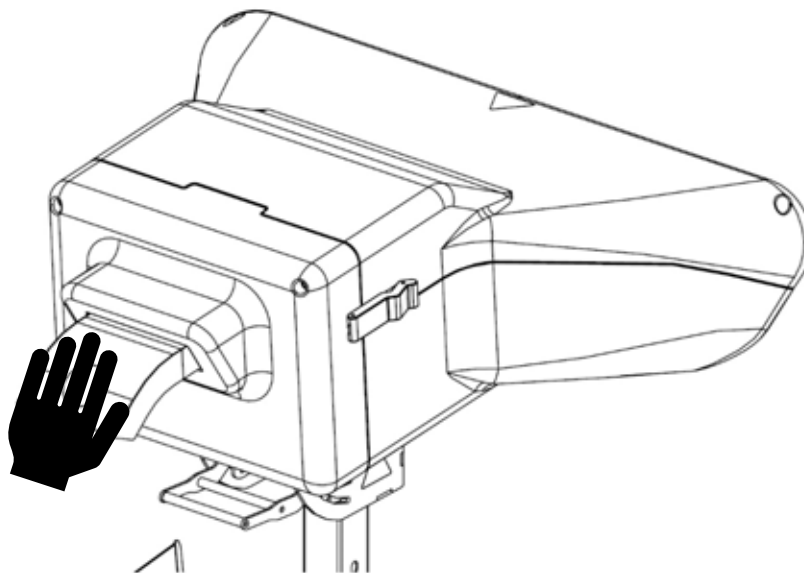

Figure 6 Dispenser Head
1. Hold the **Dispenser** head with one hand (refer to Figure 6).